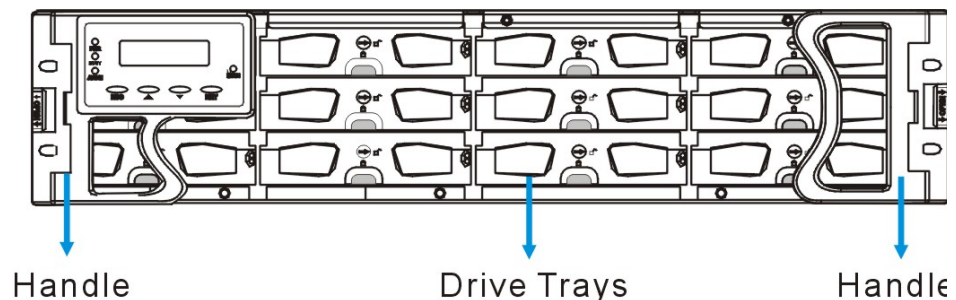
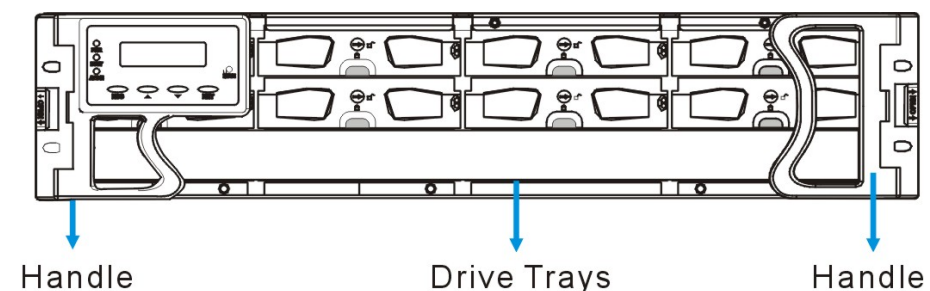

Figure 1-5: Front View – 12-bay Model
Figure 1-6: Front View – 8-bay Model
The front section of the subsystem features a 4 x 2 or 4 x 3 layout for eight (8) or twelve (12) 3.5-inch disk drives and a foldable LCD keypad panel. The front panels of the RAID subsystems described in this manual are shown in **Figure 1-5** and **Figure 1-6**. A description of each front panel component is given below:
The front panels shown in **Figure 1-5** and **Figure 1-6** are designed to accommodate the following components: